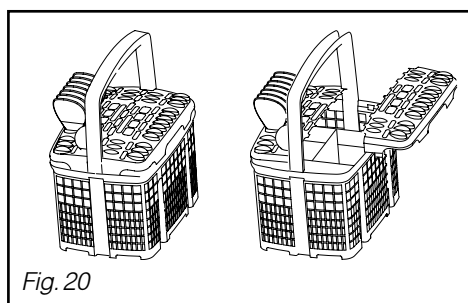

Fig. 20
***Movable grills are available for if you wish to load your cutlery in an orderly manner*** (Fig. 20).